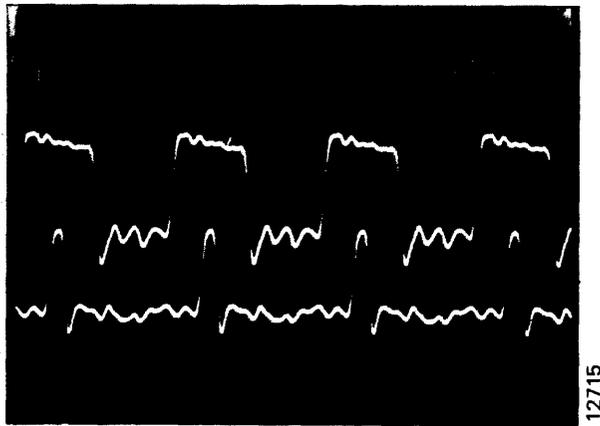

Figure 4-4. Skew One-Shot Display Waveform
- Set the START/STOP switch to START. The heads should load normally, and a display like Figure 4-4 should be seen on the scope.